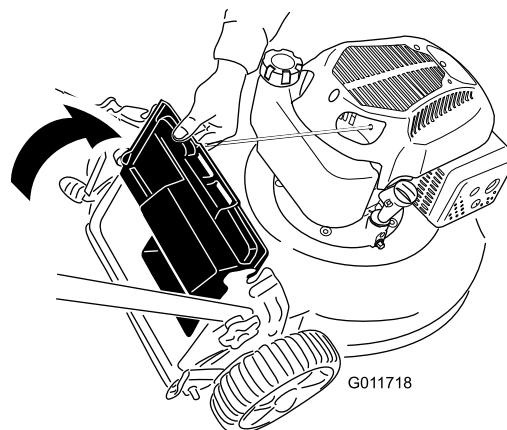

Figure 14
2. Lift up the rear deflector and hold it (Figure 14).